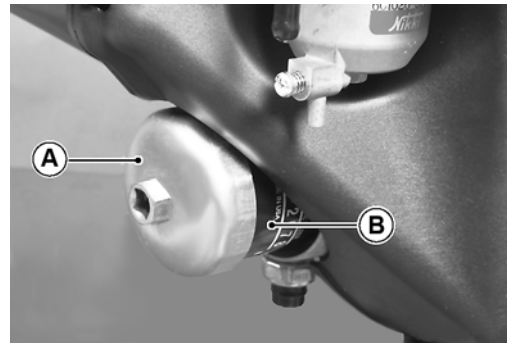

Fig. 24 Remove Oil Filter
Clean the area around filter. Using a filter wrench, strap wrench or other suitable wrench, remove the filter (B) from the engine and allow the oil to drain. The 'O' rings may remain on engine (A) or filter (B) (Ref Fig. 24 on page 18)